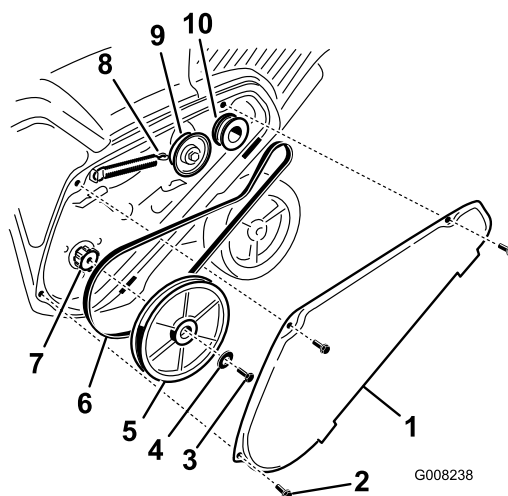

Figure 28
1. Remove the drive-belt cover by removing the 3 bolts as shown in Figure 28.
2. Unhook the brake spring from the idler arm to release the belt tension (Figure 28).
3. Remove the screw and curved washer that holds the rotor pulley (Figure 28).
4. Remove the rotor pulley and the drive belt (Figure 28).
Note: Route the new drive belt first around the engine pulley, then the idler pulley, and finally around the loose rotor pulley positioned just above the rotor shaft (Figure 28).
6. Install the rotor pulley onto the rotor shaft (Figure 28).
7. Install the curved washer and the rotor-pulley bolt and tighten them securely (Figure 28).